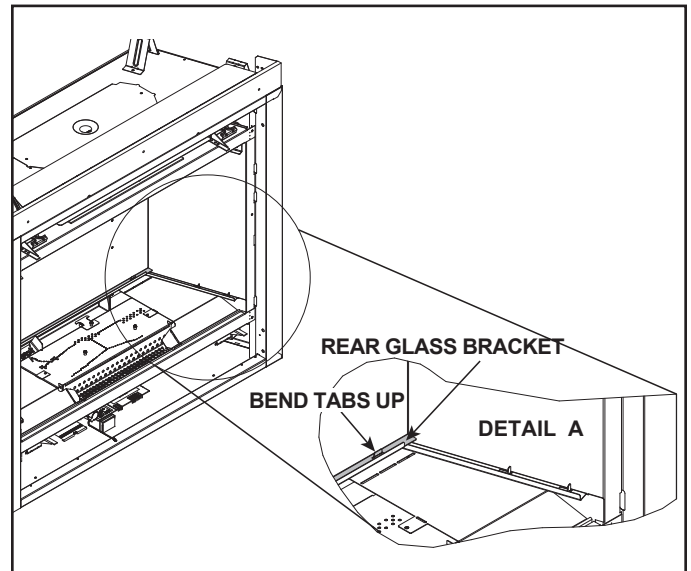

Figure 5 Bend Tabs on Lower Side and Rear Glass Brackets
- Remove the new rear lower glass bracket from the packaging and bend the hand bend features “up” to about 45 degrees. See Figure 5. Install the new rear lower glass bracket with screws removed in Step 3.
Note: The new lower glass bracket spans the entire width of the back wall of the firebox and rests above the side lower glass brackets. See Figure 5, Detail A.